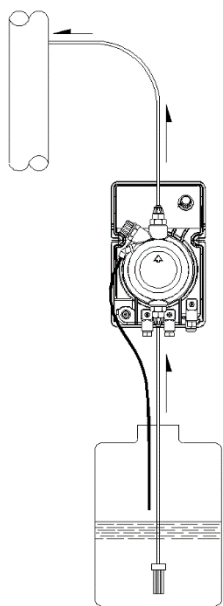
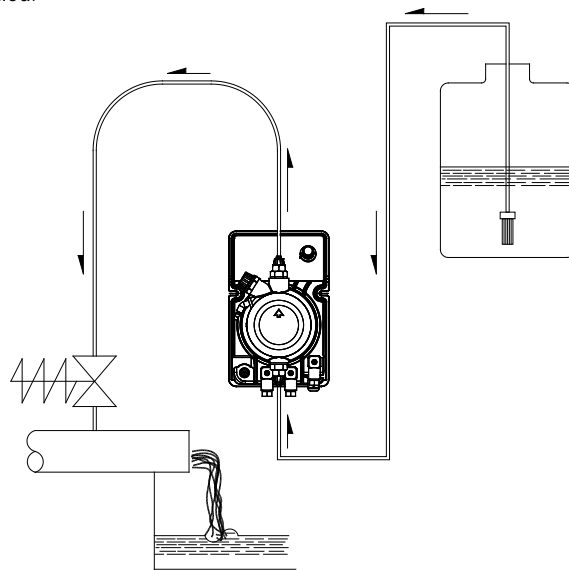

Fig. 5
Fig.6
C) Locate the pump as shown in fig. 5 bearing in mind that it may be installed either below or above the level of the liquid to be dosed, though the level difference should not exceed 2 meters. When the process plant in which the pump is installed is operating at atmospheric pressure (no back pressure) and the chemical tank is situated above the plant (Fig. 6), the condition of the injection valve should be checked at regular intervals, because excessive wear and tear could cause additive to drip into the plant even when the pump is shut down. If the problem persists, install a properly calibrate **counter-pressure valve (C)** between injection point and the valve. In the case of liquids that generate aggressive vapours, do not install the pump above the stor-age tank unless the latter is hermetically sealed.